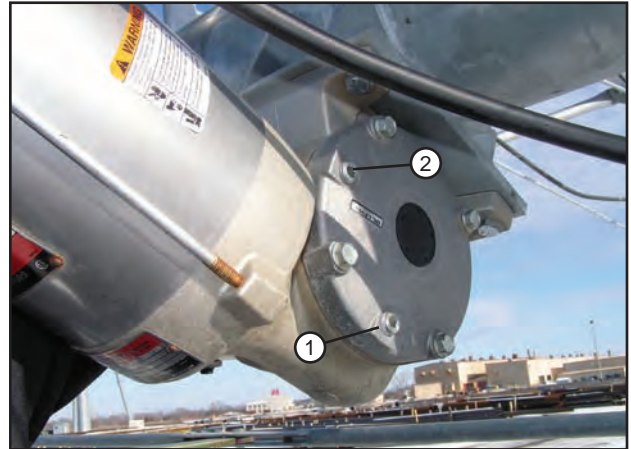

Figure 29-1
1. Remove both the fill plug and drain plug from the steering motor gearbox, then drain the oil into a container. See figure 29-1.